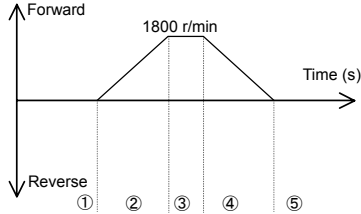

Figure 7.1 Operation Pattern
Figure 7.1 shows an example of an inverter's operation pattern. To drive the inverter according to this operation pattern, the communication data should be as shown in item (2) below.